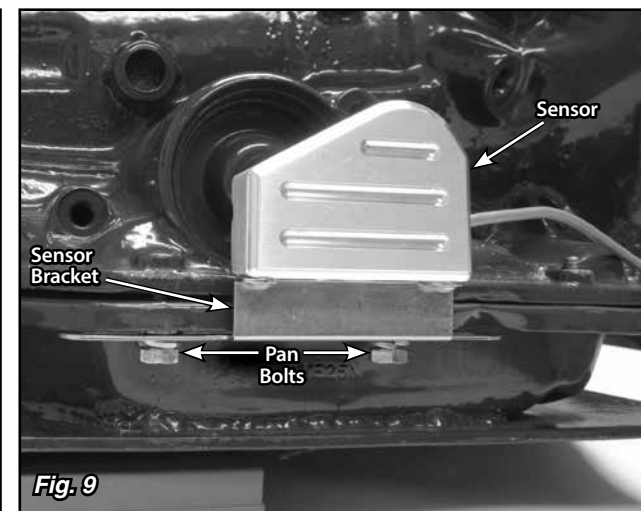

Fig. 9
- **Directly onto the right hand side of the transmission:** Use the provided bolts, lock washers, flat washers, and spacers to mount the sensor and sensor bracket to the first and second pan bolts to the rear of the dipstick tube. Adjust the sensor and sensor bracket forward or backward until you can move the sensor arm through its full range of travel without the sensor arm interfering with the transmission case. Tighten the transmission pan bolts that are used to mount the sensor bracket. **Fig. 9**